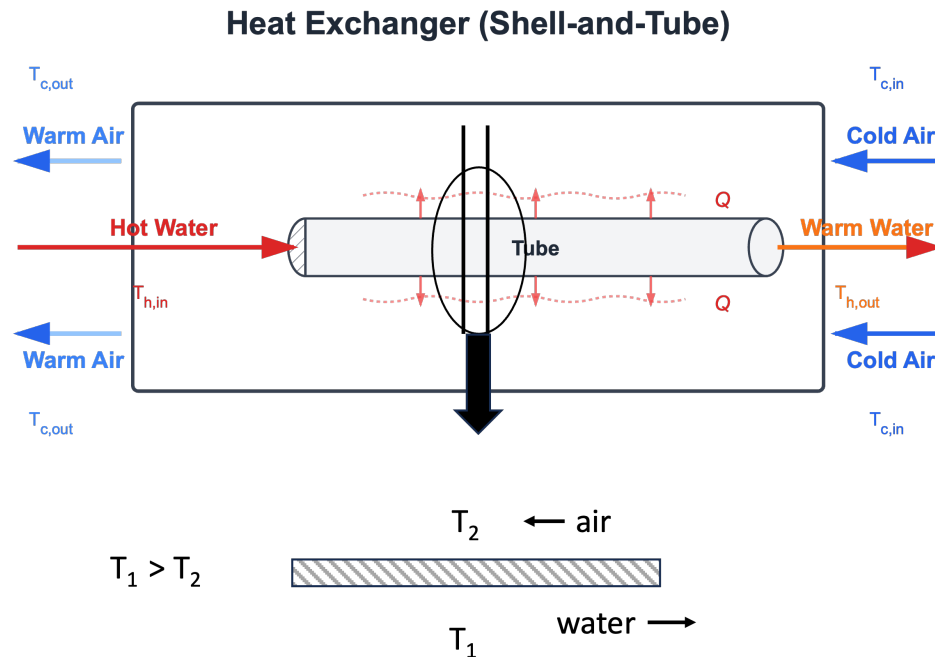

Fig. 5: Heat Exchanger Detail
- Fig. 5 shows more detail of the heat exchanger. If we consider a vertical cross section at a mid-point along the tube, we see that across the thin metal tube surface, the water is at a higher temperature T_1 than the air, which is at T_2 .